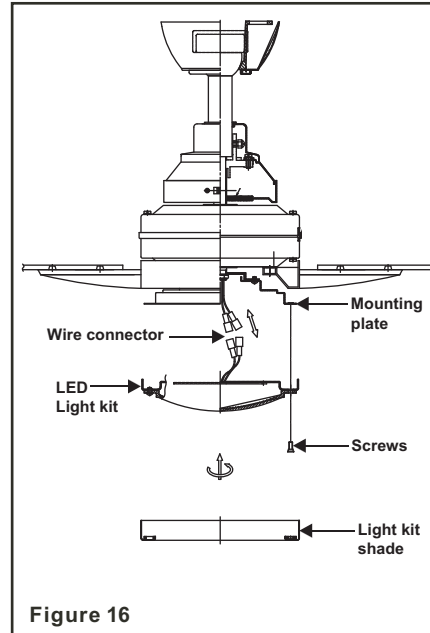

Figure 16
Step 1. Remove the 1 of 3 screws from the posts of the mounting plate and keep it for future use. Loosen the other 2 screws. (Do not remove) (Fig. 16)
Step 3. Place the key holes in the LED light kit over the two screws previously loosened from the mounting plate. Turn the LED light kit until the LED light kit locks in place at the narrow section of the key holes. (Fig. 16)
Step 4. Securely tighten the two light kit mounting screws previously loosened and the one previously removed. (Fig. 16)
Step 5. Raise light kit shade up against the LED light kit, and secure it to fan by turning light kit shade clockwise until snug. DO NOT OVERTIGHTEN. (Fig. 16)